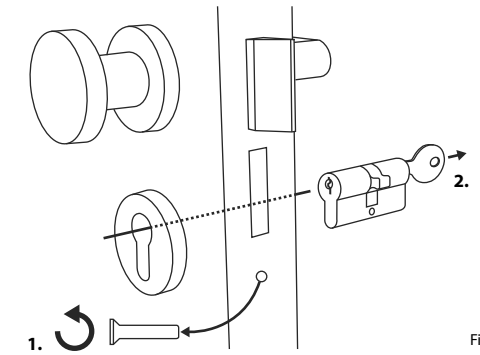

Fig. 1
- 1 Remove the existing door lock cylinder by loosening the forend screw in the door and pulling out the cylinder with the key inserted (Fig. 1).